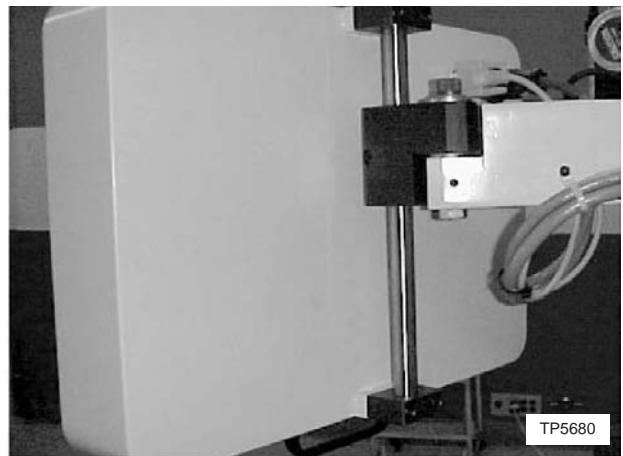

Figure 2.14 - Cables are Plugged into back of Pendant
6. Plug existing cables into the back of the control station (see Figure 2.14). Cable connectors are unique so there should be no confusion as to placement.